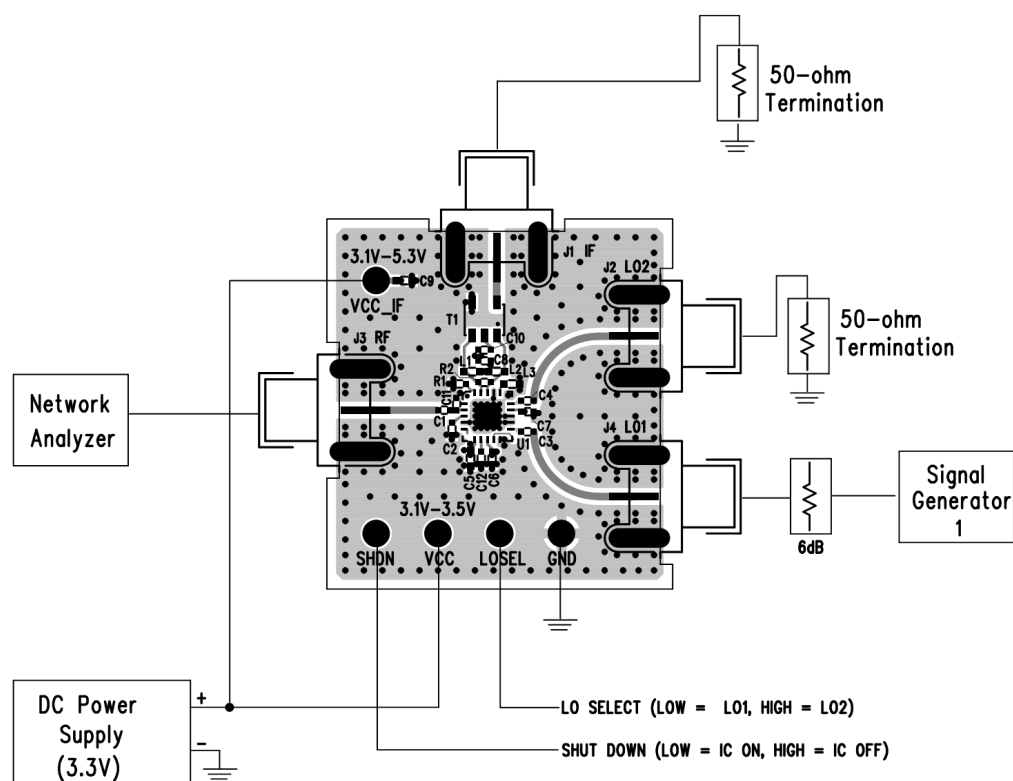
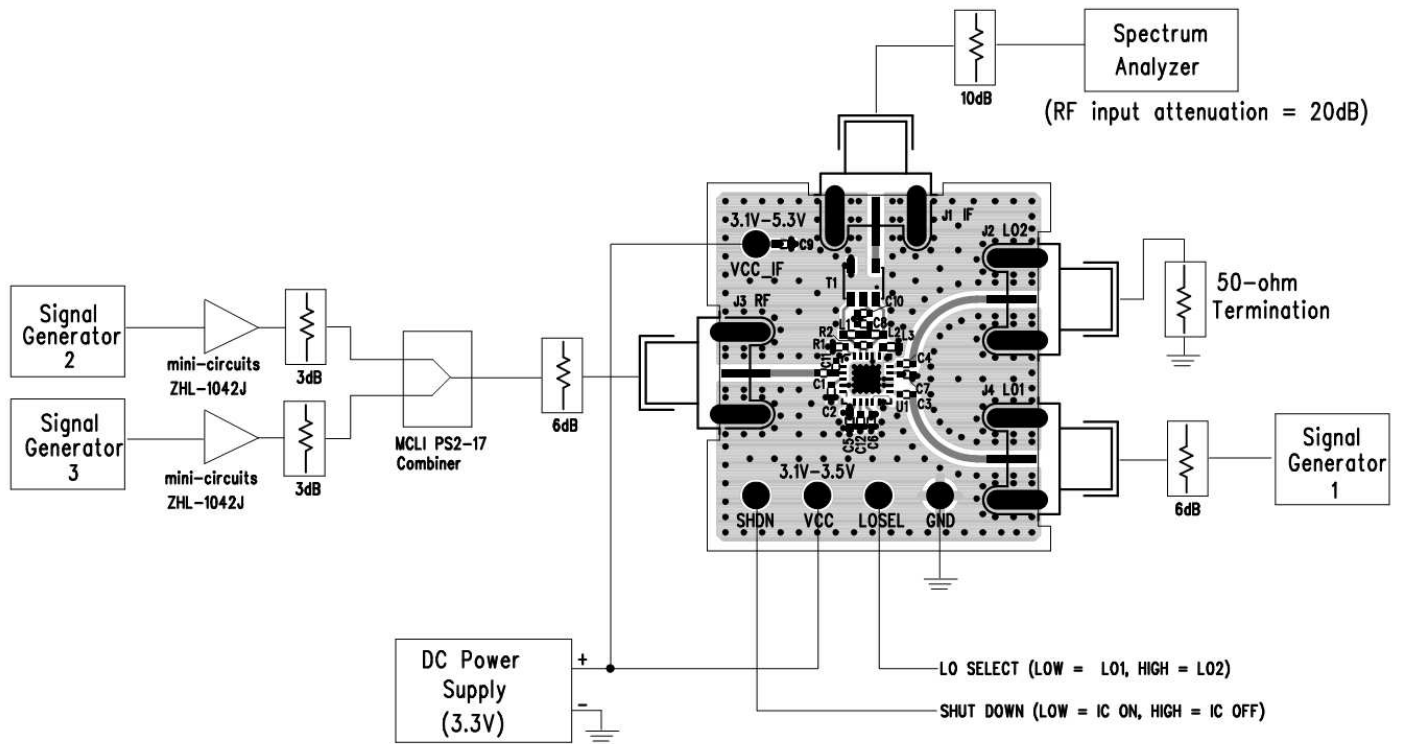
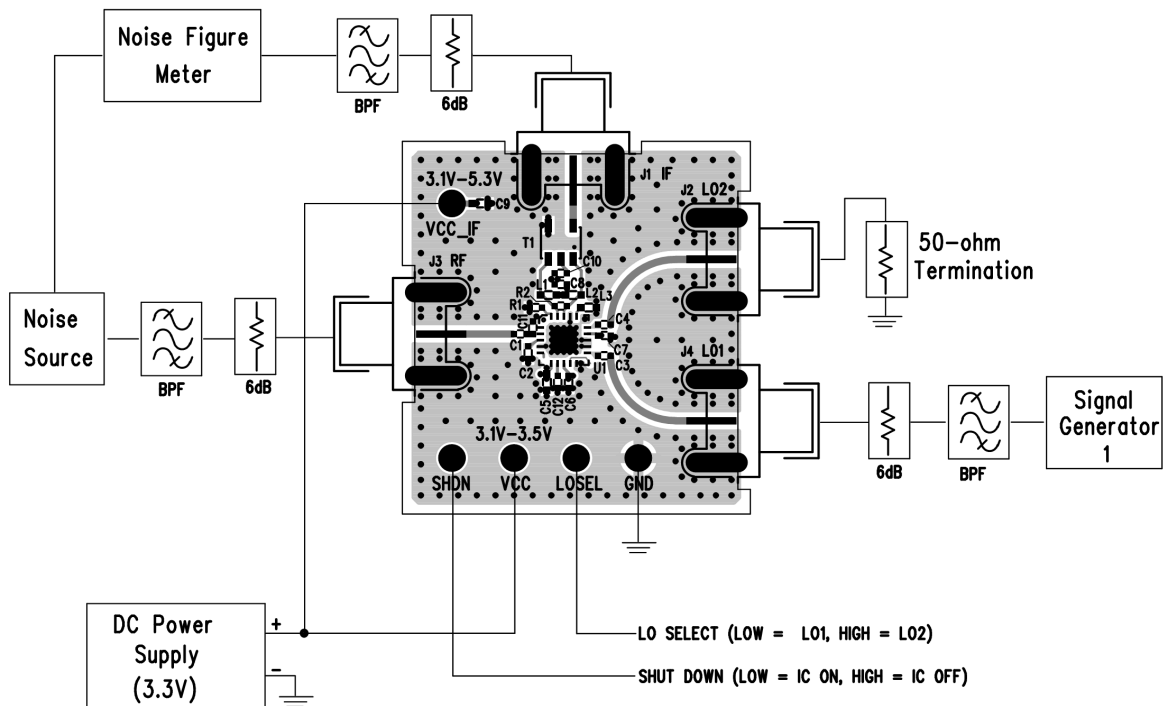

Figure 5. Proper Equipment Setup for Return Loss Measurements
Figure 6. Proper Equipment Setup for RF Performance Measurements
Figure 7. Proper Equipment Setup for Noise Figure Measurement
The LTC5540 is a high dynamic range downconverting mixer IC with very high input 3rd order intercept. Accuracy of its performance measurement is highly dependent on equipment setup and measurement technique. The recommended measurement setups are presented in Figure 5, Figure 6, and Figure 7. The following precautions should be observed:
The LTC5540 consists of a high linearity passive double-balanced mixer core and IF buffer amplifier. Due to the bi-directional nature of all passive mixers, $\text{LO}\pm\text{IF}$ mixing product is always present at the RF input, typically at a level of 12dB below the RF input signal. If the $\text{LO}\pm\text{IF}$ "Pseudo-Image Spur" is not properly terminated, it may interfere with the source signals, and can degrade the measured linearity and noise figure significantly. To avoid interference from the $\text{LO}\pm\text{IF}$ "Pseudo-Image Spur", terminate the RF input port with an isolator, diplexer, or attenuator. In the recommended measurement setups presented in Figure 6 and Figure 7, the 6dB attenuator pad at the demonstration circuit's RF input serves this purpose.
Demonstration circuit 1431A-A is easy to set up to evaluate the performance of the LTC5540. Refer to Figure 5, Figure 6, and Figure 7 for proper equipment connections and follow the procedure below:
3. Connect all test equipment as shown in Figure 5 with the signal generator and the DC power supply turned off.
1. Connect all test equipment as shown in Figure 6 with the signal generators and the DC power supply turned off.
2. Connect all test equipment as shown in Figure 7 with the signal generator and the DC power supply turned off.